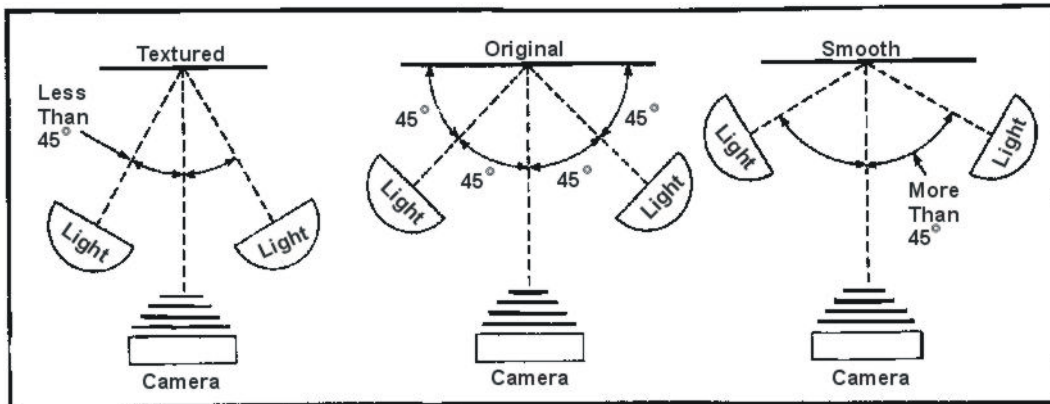

Figure J-3. Adjust Distance to Intensity
c. Place the lights equal distances from the original if they are of equal intensity. When the intensity is not equal, place the brighter light farther away so the illumination of the original from each light is the same. Illumination decreases with the square of the distance. Also you can get the same illumination of the original by placing a light that is four times brighter twice the distance away (Figure J-3).